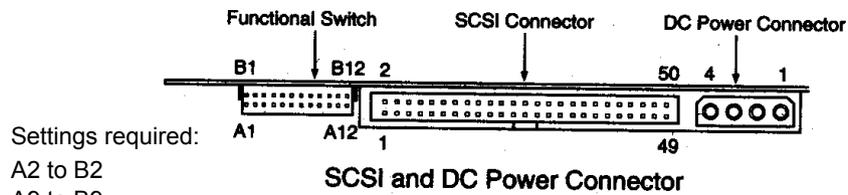

Figure 8-52 MO Drive Removal
- 2) Carefully slide the MO Drive into the front of the BEP (refer to Figure 8-52 on page 8-68). For BEP2 systems, secure the MO Drive in position with the four screws (two on each side).